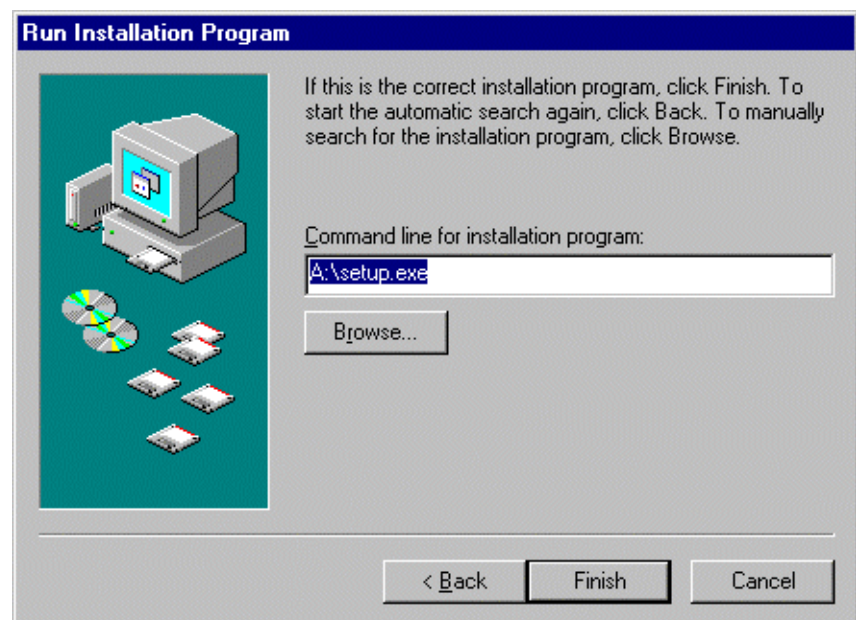

Fig. 1-4
- (4) Then, when the dialog shown in Fig. 1-4 appears, click **Finish**.